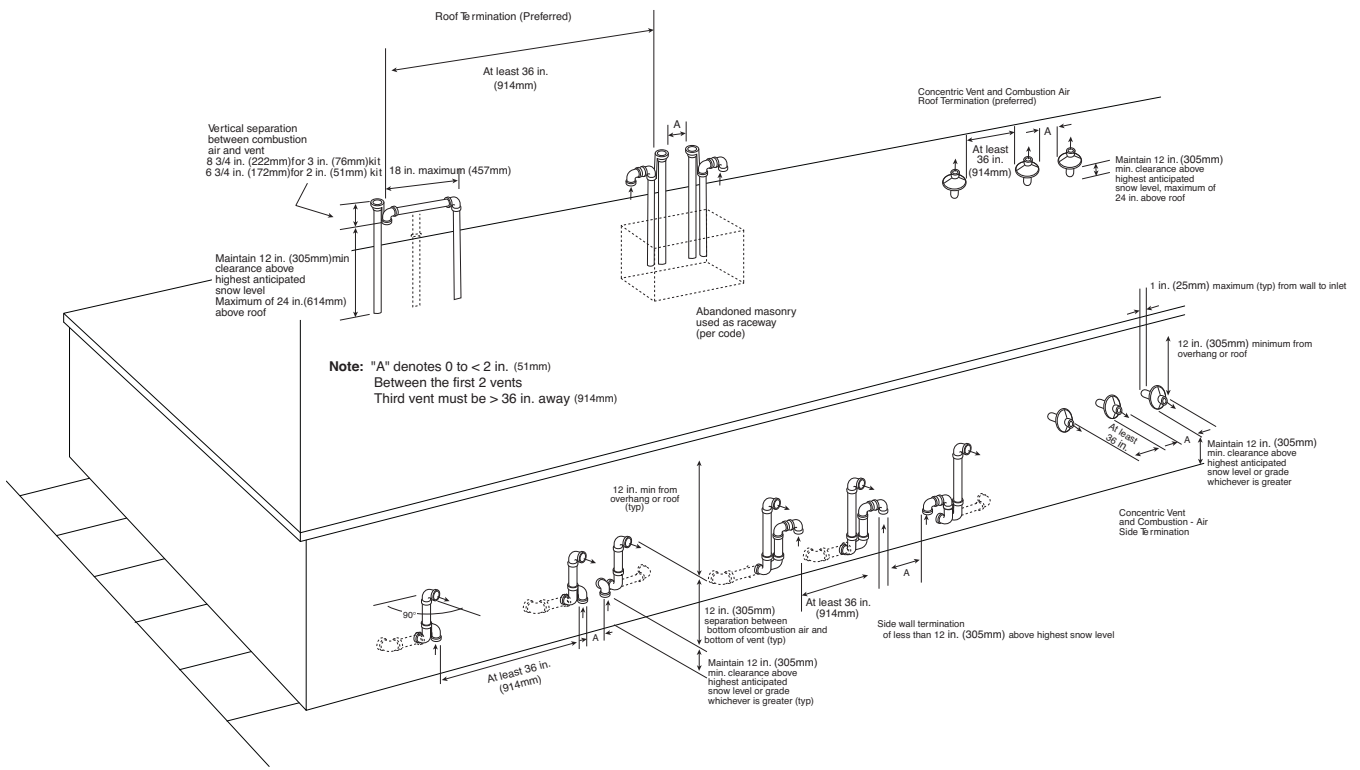
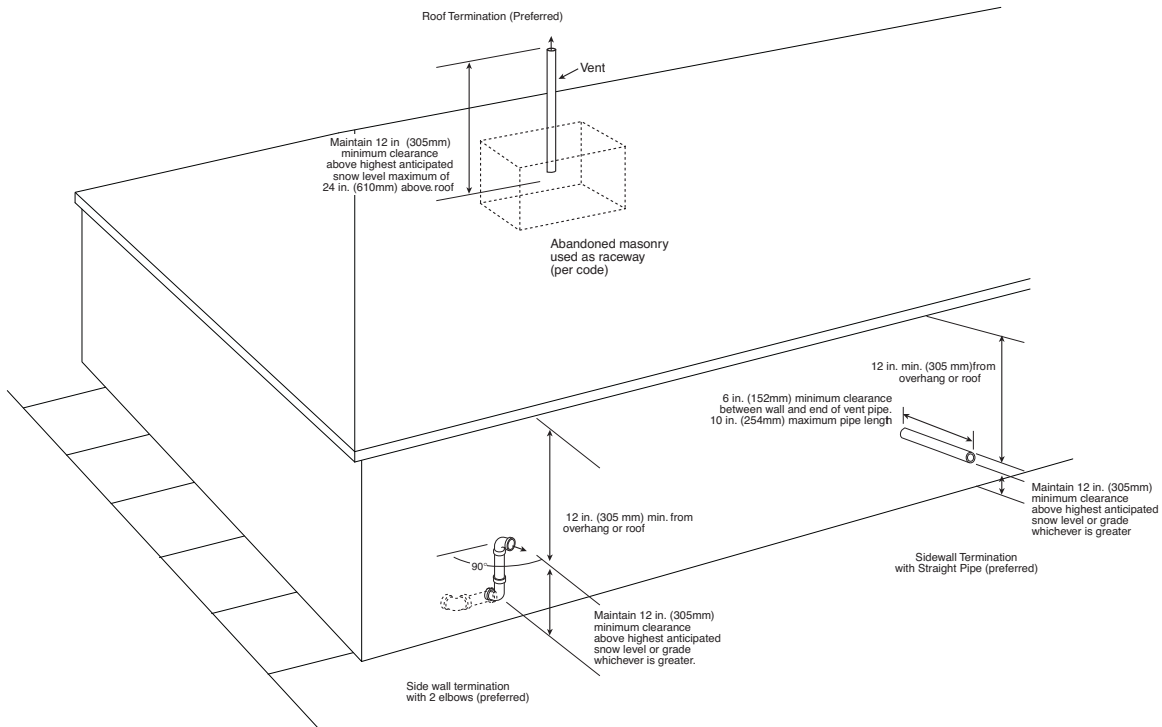

Fig. 44 - Combustion Air and Vent Pipe Termination for Direct Vent (2-pipe) System
Fig. 45 - Vent Pipe Termination for Non-Direct Vent (1-pipe) System
Combustion-air (direct vent/2-pipe system only) and vent pipe must terminate outside structure, either through sidewall or roof. For vent termination clearance, refer to Table 8 for Direct Vent/2-Pipe system and Table 9 for Non-direct Vent/1-Pipe system. For exterior piping arrangements, refer to Fig. 44 for Direct Vent/2-Pipe system and Fig. 45 for Non-Direct/1-Pipe system.
Sidewall combustion air pipe termination (direct vent/2-pipe system only) and vent pipe termination may be extended beyond area shown in Fig. 44 or in Fig. 45 per application in outside ambient by insulating pipe as indicated in Table 10.
Roof terminations - Locate assembly through roof to appropriate height as shown in Fig. 44.
Sidewall terminations - Locate assembly through sidewall with rain shield positioned no more than 1-in. (25 mm) from wall as shown in Fig. 44.
5. Check required dimensions as shown in Fig. 44.
Roof terminations - Loosely install pipe coupling on properly cut vent pipe. Coupling must be positioned so bracket will mount as shown in Fig. 44.
For applications using combustion-air pipe option, indicated by dashed lines in Fig. 44, install 90° street elbow into 90° elbow, making a U-fitting. A 180° U-fitting may be used.
Sidewall terminations - Install bracket as shown in Fig. 44. For applications using vent pipe option indicated by dashed lines in Fig. 44, rotate vent elbow 90° from position shown in Fig. 44.
4. Check required dimensions as shown in Fig. 44.
(Direct Vent/2-Pipe System ONLY) - When 2 or more 58MEC furnaces are vented near each other, 2 vent terminations may be installed as shown in Fig. 44, but next vent termination must be at least 36 in. (914 mm) away from first 2 terminations. It is important that vent terminations be made as shown in Fig. 44 to avoid recirculation of flue gases.